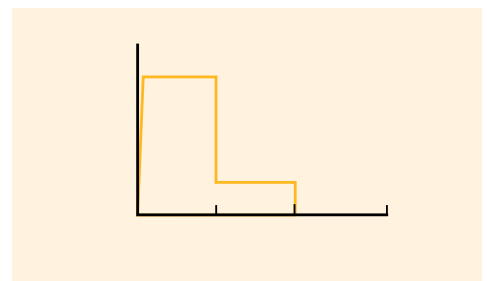

Figure 2
- **Patented Amplitude Stepping** – Built-in digital amplitude control for optimization of weld strength and aluminum welding. See Figure 2.
- **Total Amplitude Control** – Utilizing Branson's power supply technology, you have complete control of amplitude throughout the weld cycle: programmable starting ramp, digital setting of weld amplitude and patented amplitude stepping. See Figure 2.